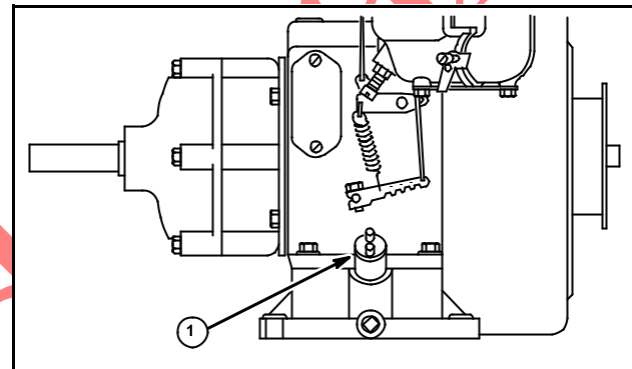

Fig. 48
3. Stop engine, recheck oil level. Add oil as required to bring engine oil level up to full (1), Fig. 48.